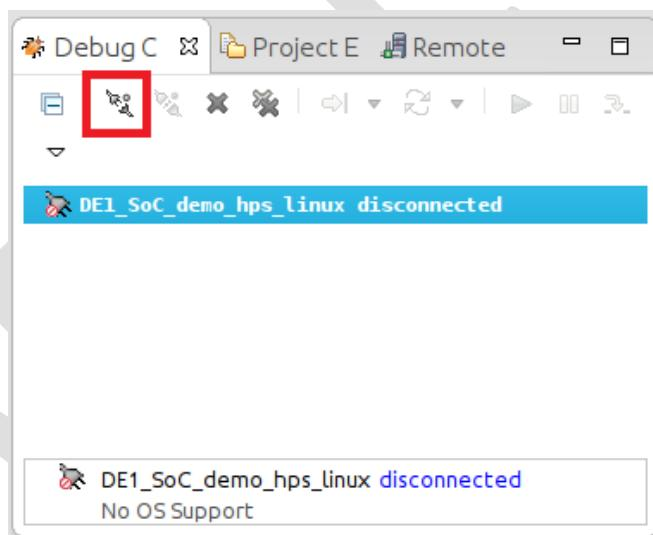

Figure 8-64. Debug Control View
27. In the “Debug Control” view, click on the “DE1\_SoC\_demo\_hps\_linux” entry, then click on the “Connect to Target” button, as shown on Figure 8-64. The debugger will start an SSH connection to the Linux distribution running on the DE1-SoC and will automatically transfer our binary file and wait at our application’s “main()” function.